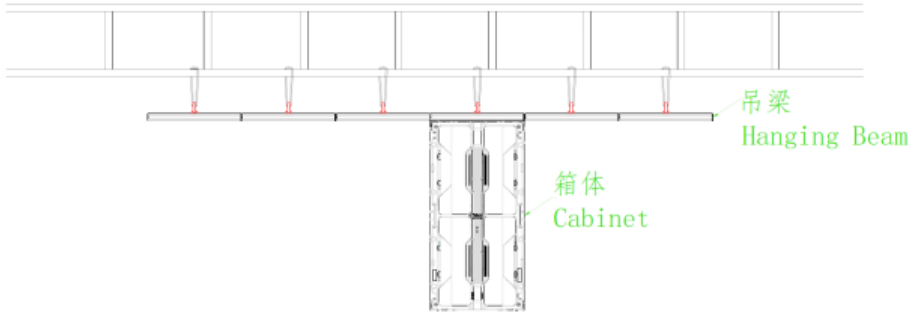

Figure 2-8 Installation of Hanging Cabinets (1)
- 1) Adjust the levelness of the hanging beam by using the synthetic fiber slings, to prevent tilting of the LED display, as shown in Figure 2-8.